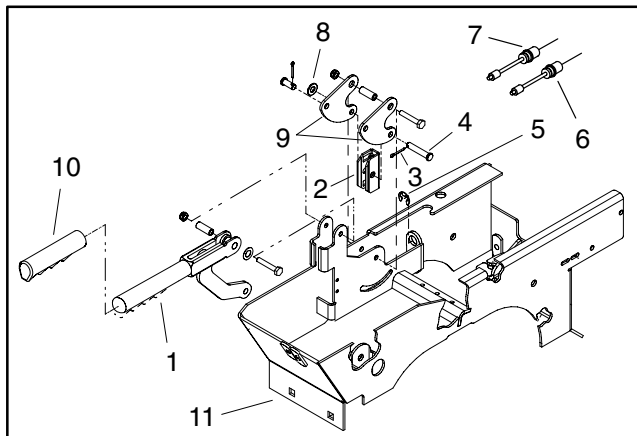

Figure 11
Removal (Fig. 11)
6. Remove retaining ring that secures brake cable to lever support bracket (Fig. 11).
Installation (Fig. 11)